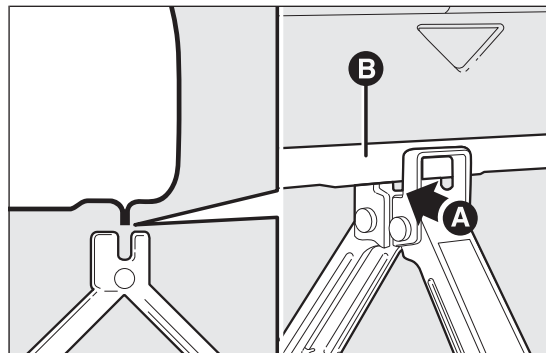

fig. 122
- ☐ turn the jack to open it until the groove A fig. 122 of the jack is correctly inserted in the lower profile B on the side member: